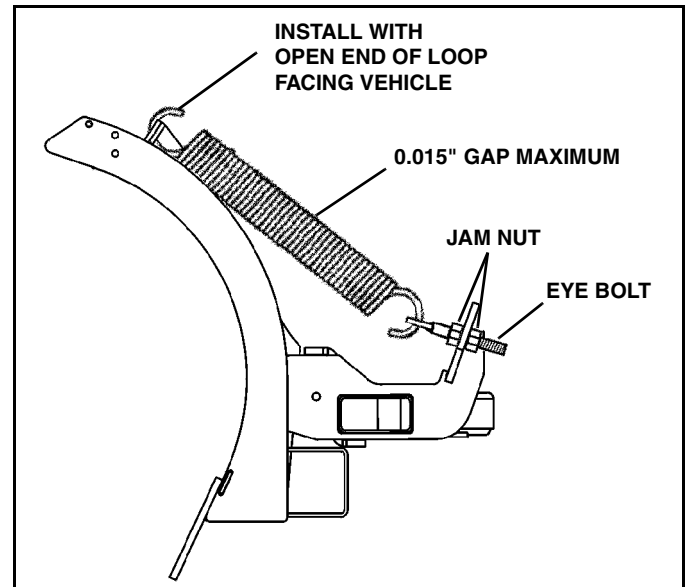

Figure 1-7
6. Remove the springs from the blade parts carton. Hook springs onto blade with open end of loop facing up. (See Figure 1-7).
7. Hook other end of spring onto eyebolt. Insert one eyebolt on each side of the blade into the hole on the swing frame spring bracket. Use a nut on either side of bracket to secure. (See Figure 1-7).